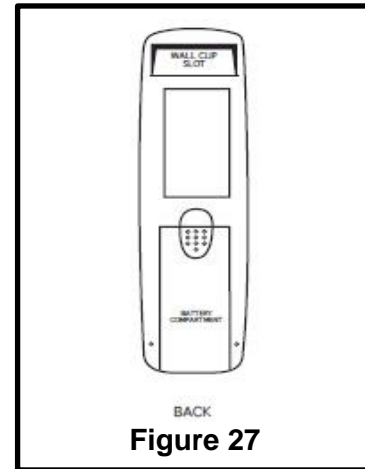

**Figure 26**
3. Set the same code combination, as used in the transmitter's code switches above, in the receiver, by using the receiver's code switches. Move the slide button to the "REMOTE" position (Figure 26) and place the receiver in front corner of the fireplace as far from the burner as possible.